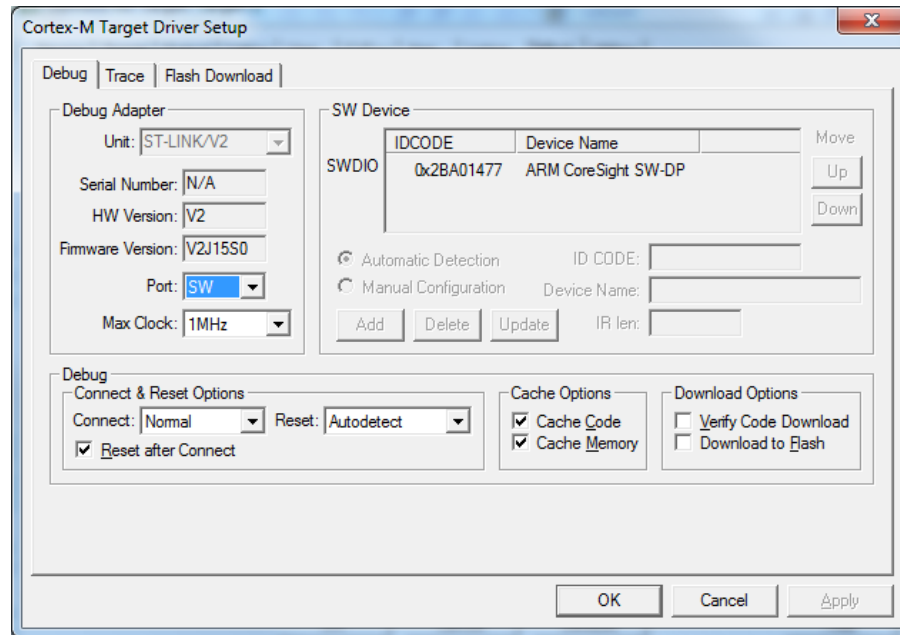

Figure 7. Single-Wire (SW) Debug Adapter port selected.
- Click on **Settings** next to **ST-Link Debugger** to produce the Cortex-M Target Driver Setup Window (Figure 7), and select **Port SW** (Single-Wire debug) under **Debug Adapter**.